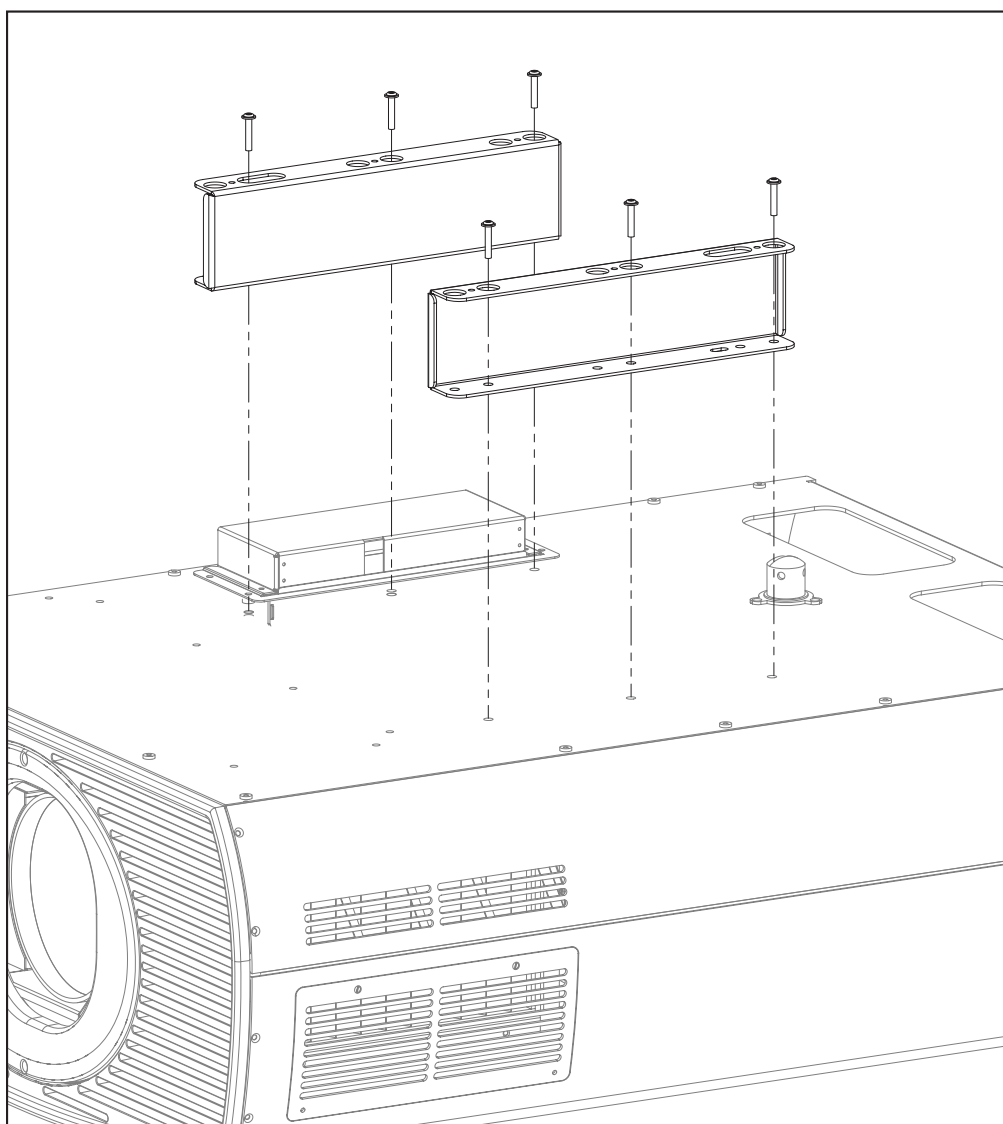

Figure 3-7. Vision 110 with Ceiling Mount Adapters/Projector Stands
Using six (6) each of the supplied, M6 x 12mm Pan-Head Phillips screws (item #2), attach the AutoScope Ceiling Mount Adapters/Projector Stands (items #3 and #4) to the projector as shown in Figure 3-7.